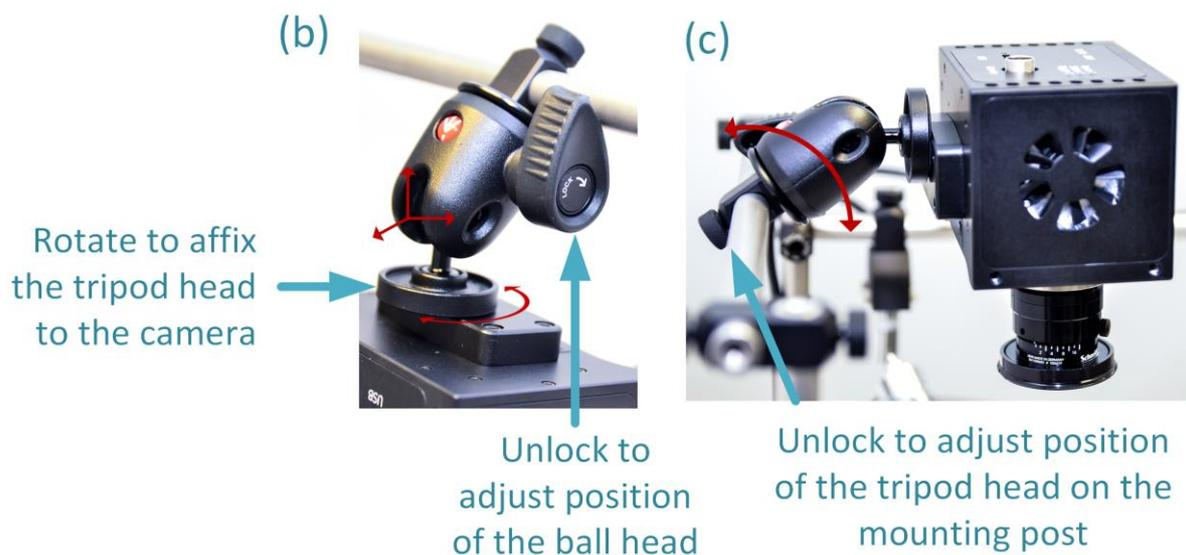

Figure 36 Mounting of snapscan camera on to the tripod head (Step 5.2)
Step 5.2 Mount the snapscan camera on the tripod head (Figure 36)